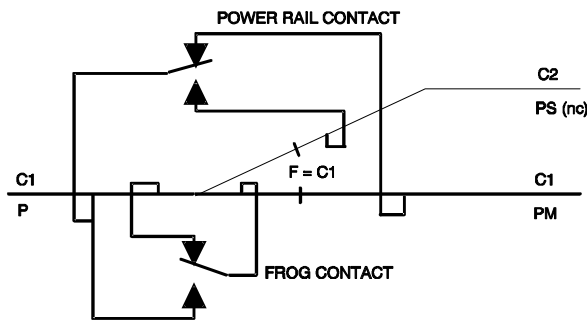

Figure 5-6 Power Routing with Straight Stock Rail Common
Just for completeness, we'll show the same switch wired with the straight stock rail as the power rail, and the curved stock rail as the common rail. In Figure 5-6, the common rails are connected to two separate detectors (C1 and C2). We assume that "P" is being fed by a cab select switch, and is routed by the upper contact to the power rail (PM) in the main line block beyond the switch.